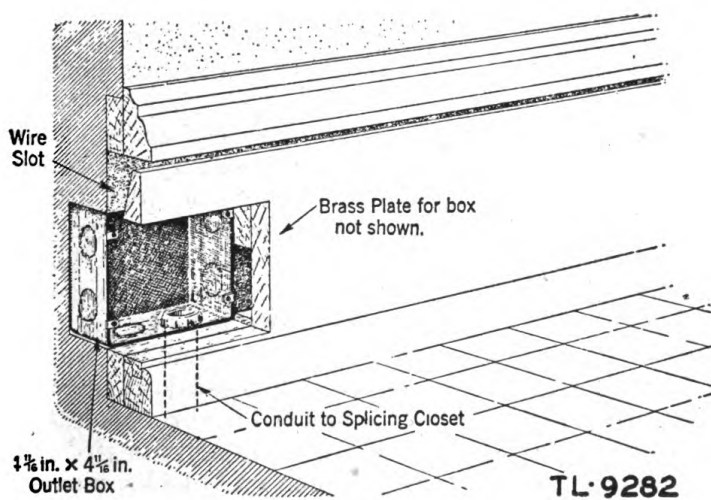

Figure 94. Wood base raceway.
f. **WOOD BASE RACEWAY.** This system of distribution consists of wood baseboards with space behind for telephone wires. The conduit from the floor terminal terminates in an outlet box behind the baseboard. (See fig. 94.) A brass plate covers the opening in the outlet box.